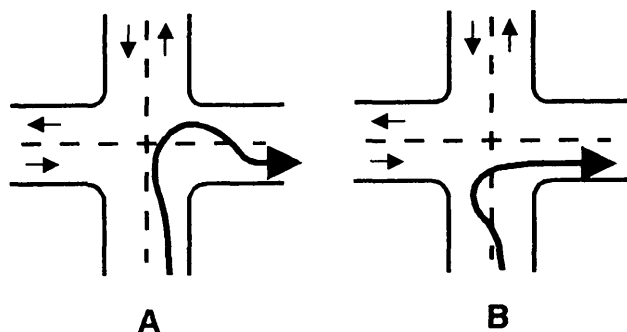
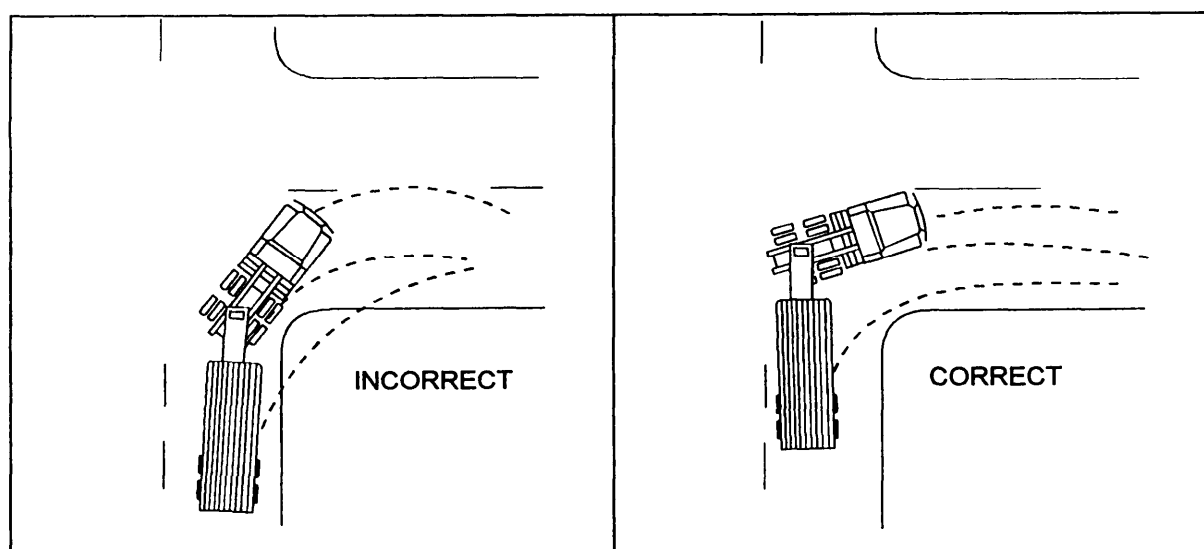

Figure 7-20.—Right turn.
Figure 7-21.—Incorrect right turn.
**RIGHT TURNS.**— When performing a right-hand turn, turn slowly to give yourself and others time to avoid problems. If you cannot make the right turn without swinging into another lane, turn wide as you complete the turn, as shown in figure 7-20, view A. Keep the rear of the tractor-trailer close to the curb to stop any drivers from passing on the right. If you must cross into the oncoming traffic lane when making your turn, watch for vehicles coming towards you. Give them room to go by or stop; however, do not back up for them, because you may have a vehicle directly behind you.
Do not turn wide to the left as you start the turn to the right, as shown in figure 7-20, view B, because a following driver may think you are turning left and try to pass you on the right. **Remember:** If you turn too sharp while making a right turn, your trailer will ride up the curb and possibly run over obstructions (fig. 7-21).